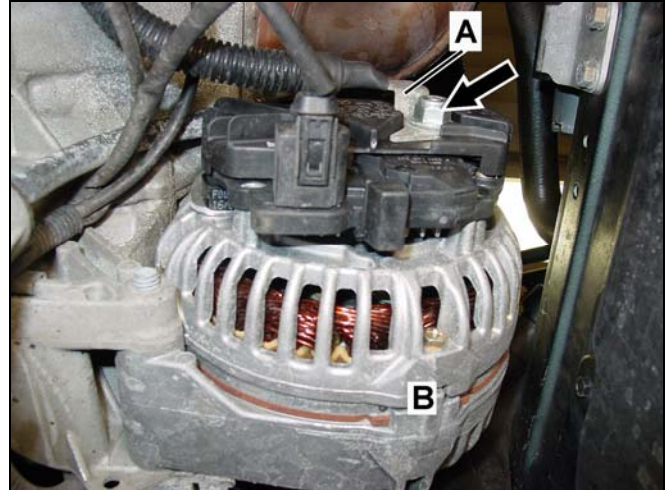

Figure 12
- Remove circuit 30 terminal cover (A, Figure 12).
- Remove nut (arrow, Figure 12) then remove circuit 30 harness connector (A) from terminal stud on alternator (B).